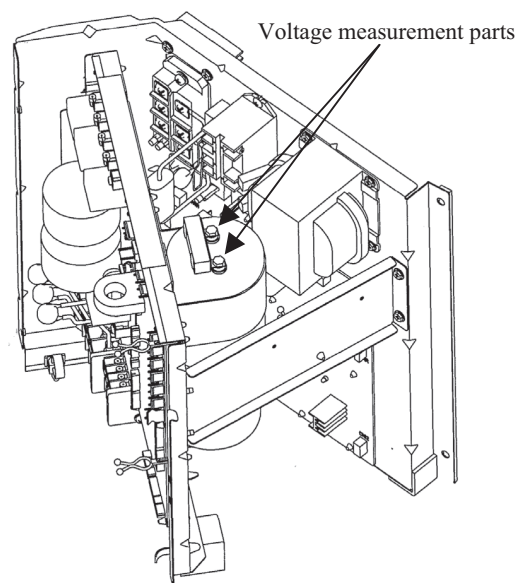

Fig.1 Position of capacitor
(**Be sure to measure voltage (DC)** on both capacitor terminals located in controller back, and **check that the voltage is discharged sufficiently.** (Refer to Fig.1))